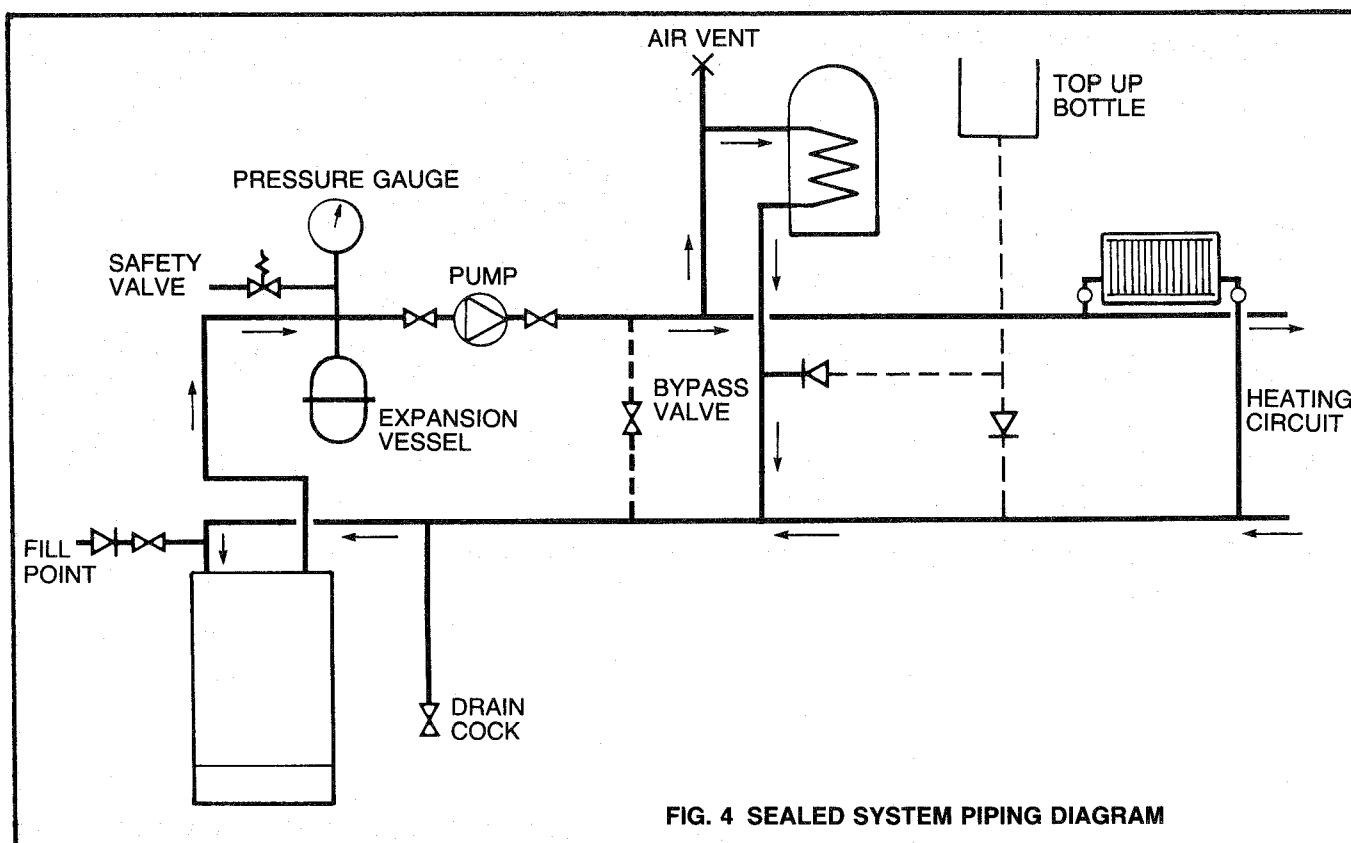

FIG. 4 SEALED SYSTEM PIPING DIAGRAM
4.3.5 SEALED WATER SYSTEM ONLY (Fig. 4)